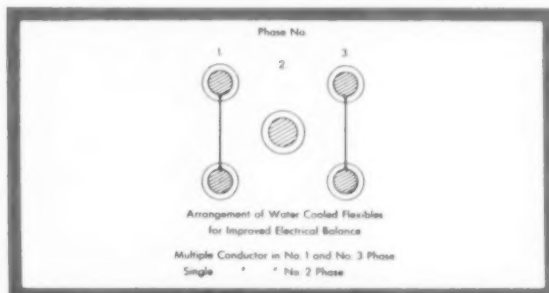

FIGURE 5
- Water cooled cables can be arranged as shown in Figure 5. The outer phases carry the current in two or more parallel small water cooled cables, whereas, the center phase has only one heavy water cooled cable.